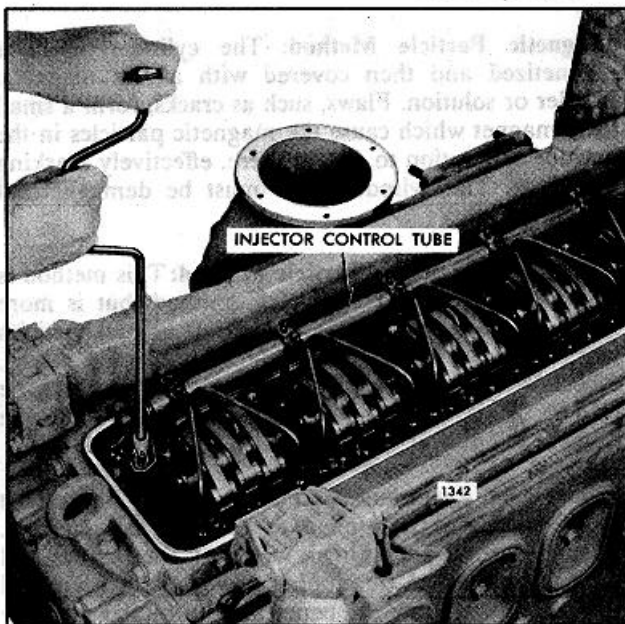

Fig. 5. Removing or Installing Injector Control Tube
10. Remove the injector control tube and brackets as an assembly (Fig. 5).